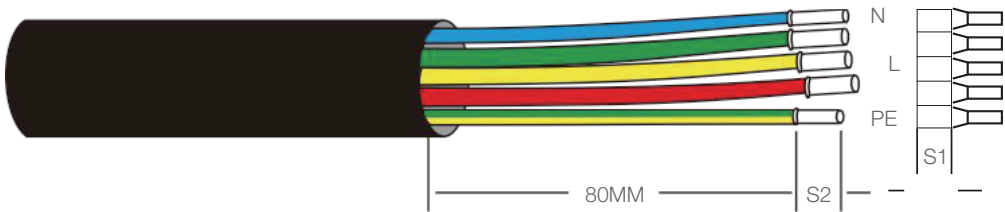

Figure 5.18 Strip AC cable
- Strip the end of AC cable insulating jacket about 80mm then strip the end of each wire. (as shown in figure 5.18)